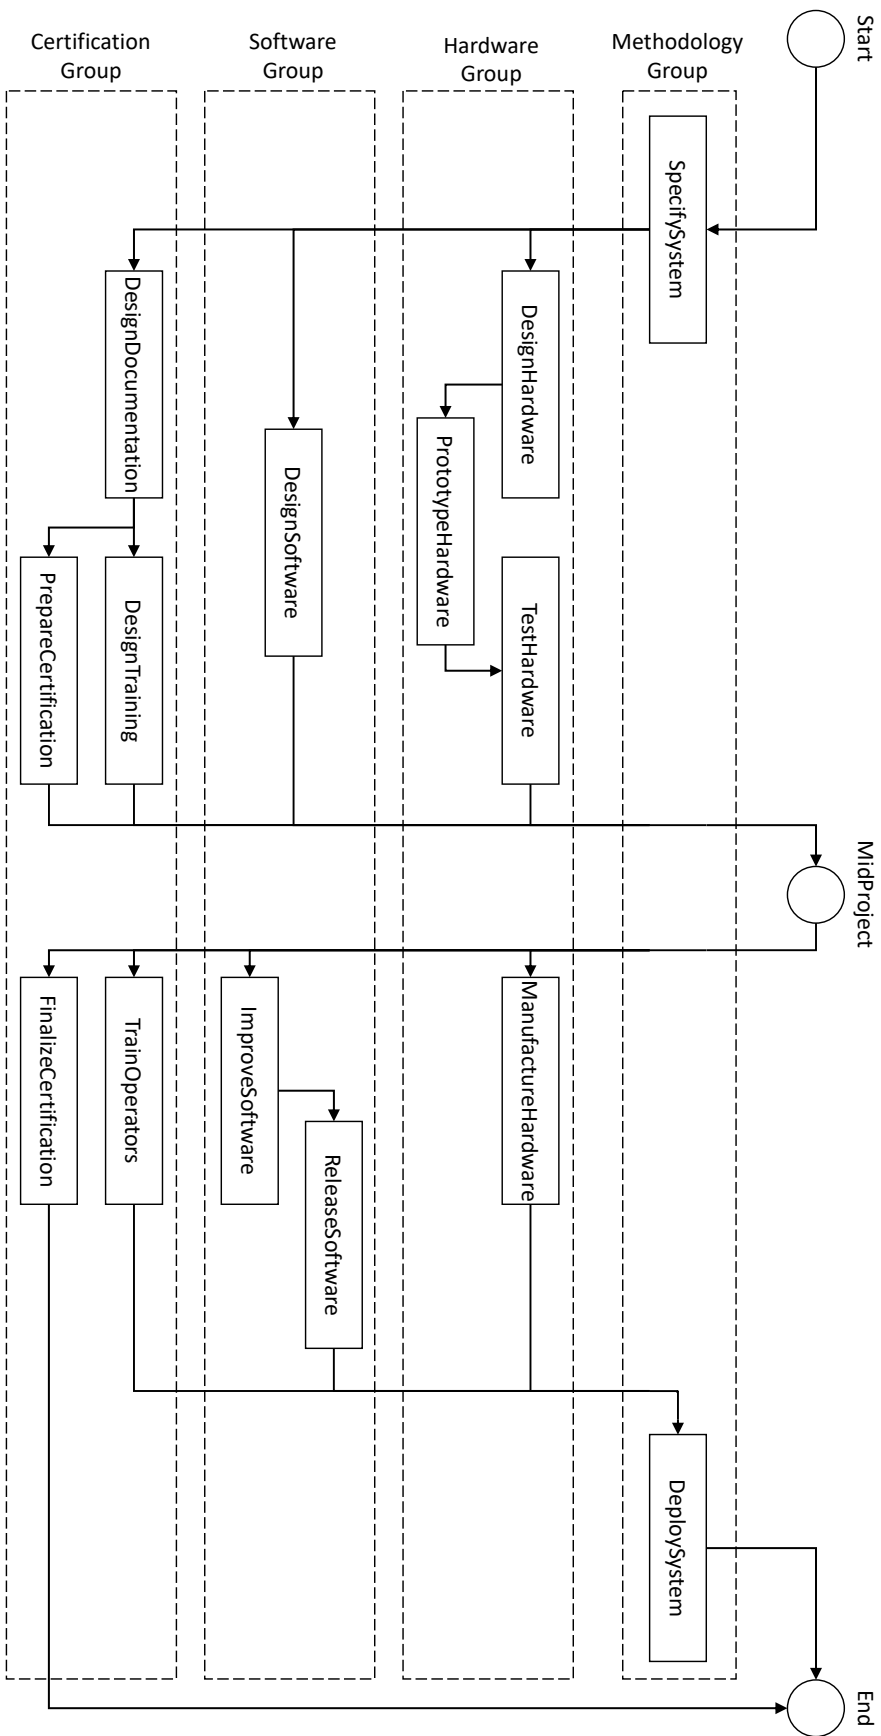

Figure 1: The diagram representing the "Control System" project
The project consists of a number of tasks with some precedence constraints, as shown Figure 1. A XML description of the model is given in the joined file "ControlSystemProject.xml".
1. Design a data structure, i.e. a set of classes, to encode models as the one represented in Figure 1.